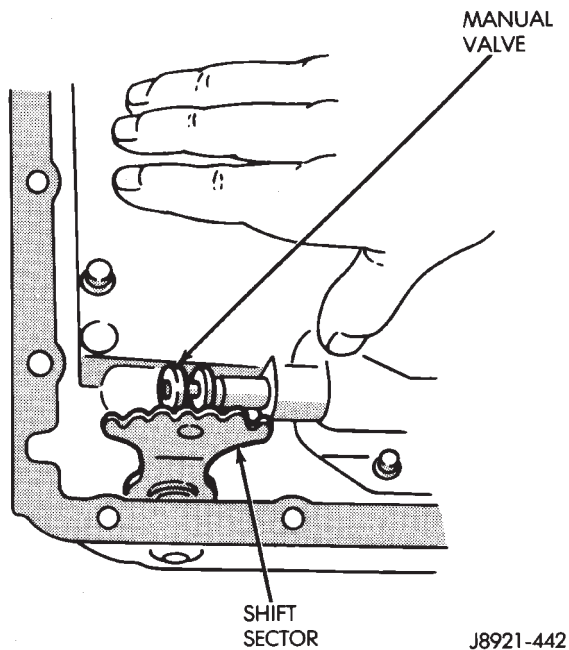

Fig. 17 Shift Sector And Manual Valve Alignment
- (4) Align valve body manual valve with shift sector (Fig. 17) and carefully position valve body on case.